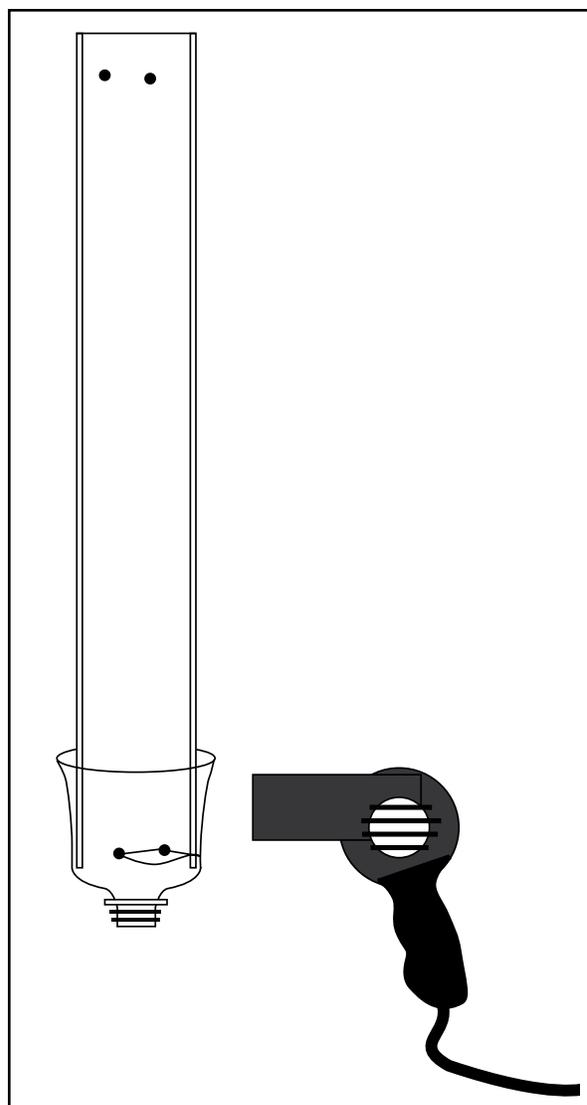

Figure 3. Shrinking the upper portion of the plastic bottle around the bottom of the large acrylic tube using a hair dryer.
6. Push the soda bottle over the acrylic tube until the neck of the bottle fits snugly against the bottom rim (see Figure 3).